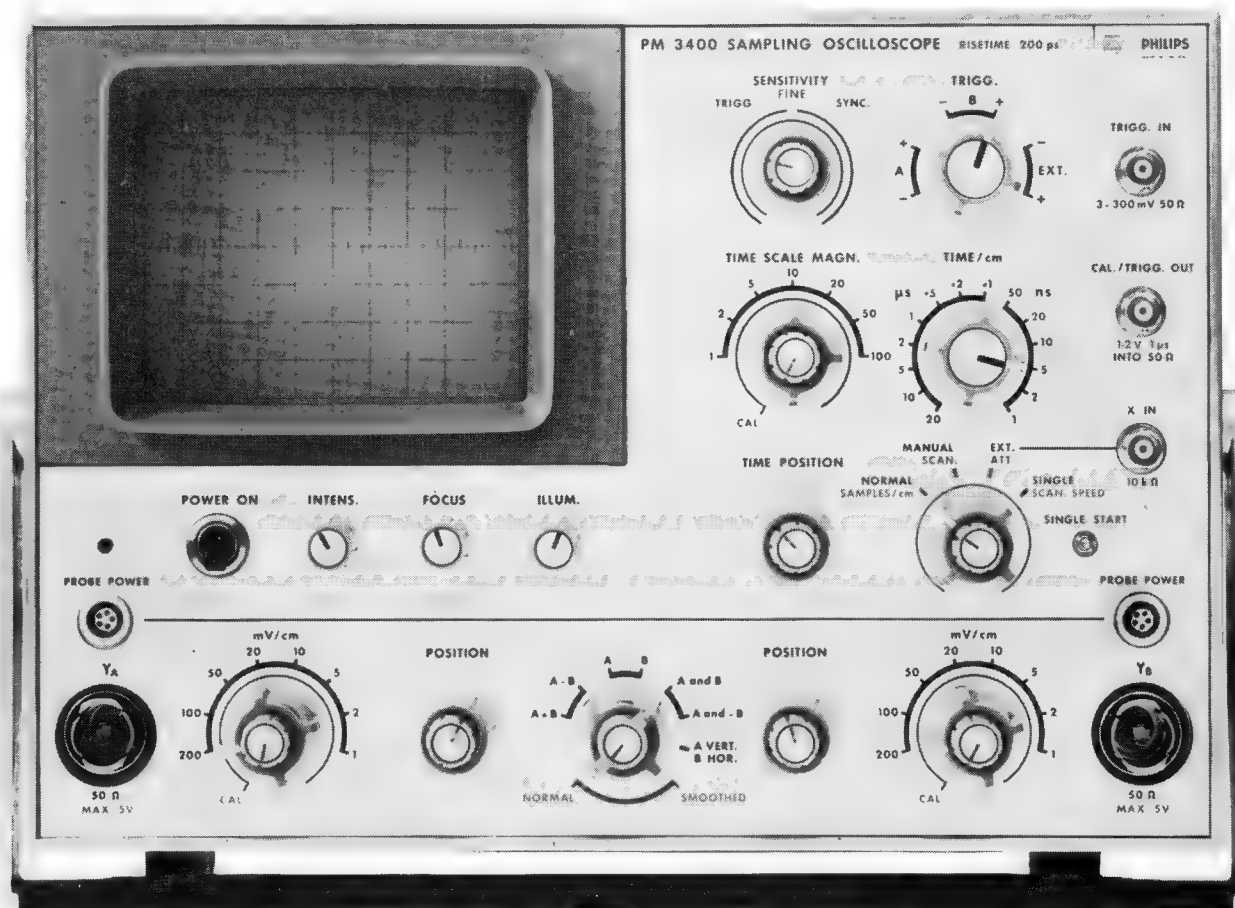

Fig. V-1 Front view
- Set the mains switch to "POWER ON". (Fig. V-1)